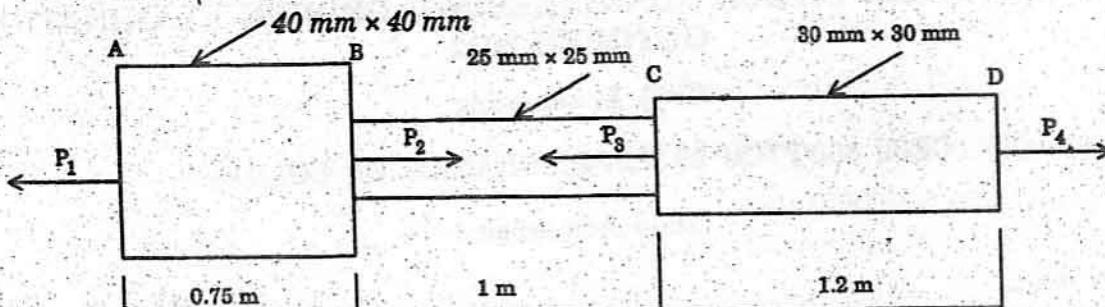

Fig. 2
- (b) A member ABCD is subjected to point loads  $P_1$ ,  $P_2$ ,  $P_3$  and  $P_4$  as shown in Fig. 2. Calculate the force  $P_3$  necessary for equilibrium if  $P_1 = 120 \text{ kN}$ ,  $P_2 = 220 \text{ kN}$  and  $P_4 = 160 \text{ kN}$ . Determine also the net change in the length of the member. Take  $E = 200 \text{ GN/m}^2$ .